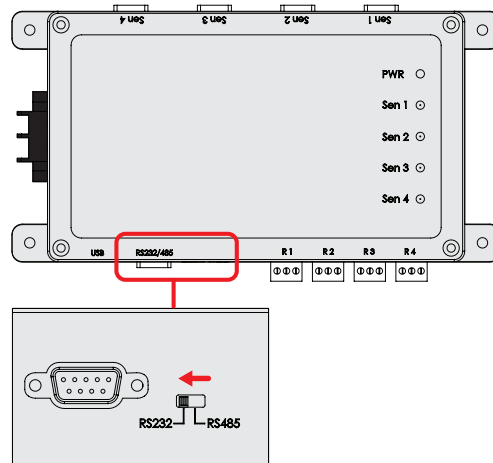

Figure 9. Changing control box output to support RS232 connection
4. Select the Serial output Switch on the control box (refer to Figure 9) to RS232.
5. Connect the cable from RS232 serial output on the control box to Custom converter as in Figure 9.